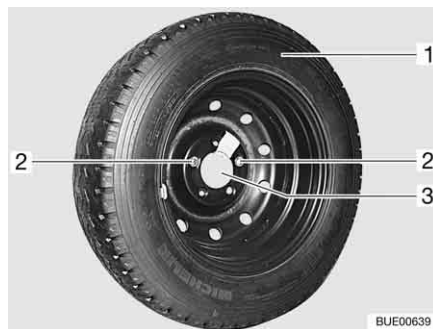

Fig. 280 Spare wheel support in the rear garage
- Loosen and remove both fixing screws (Fig. 280,2) with the on-board tool set.
- Remove the spare wheel (Fig. 280,1) from the support (Fig. 280,3).